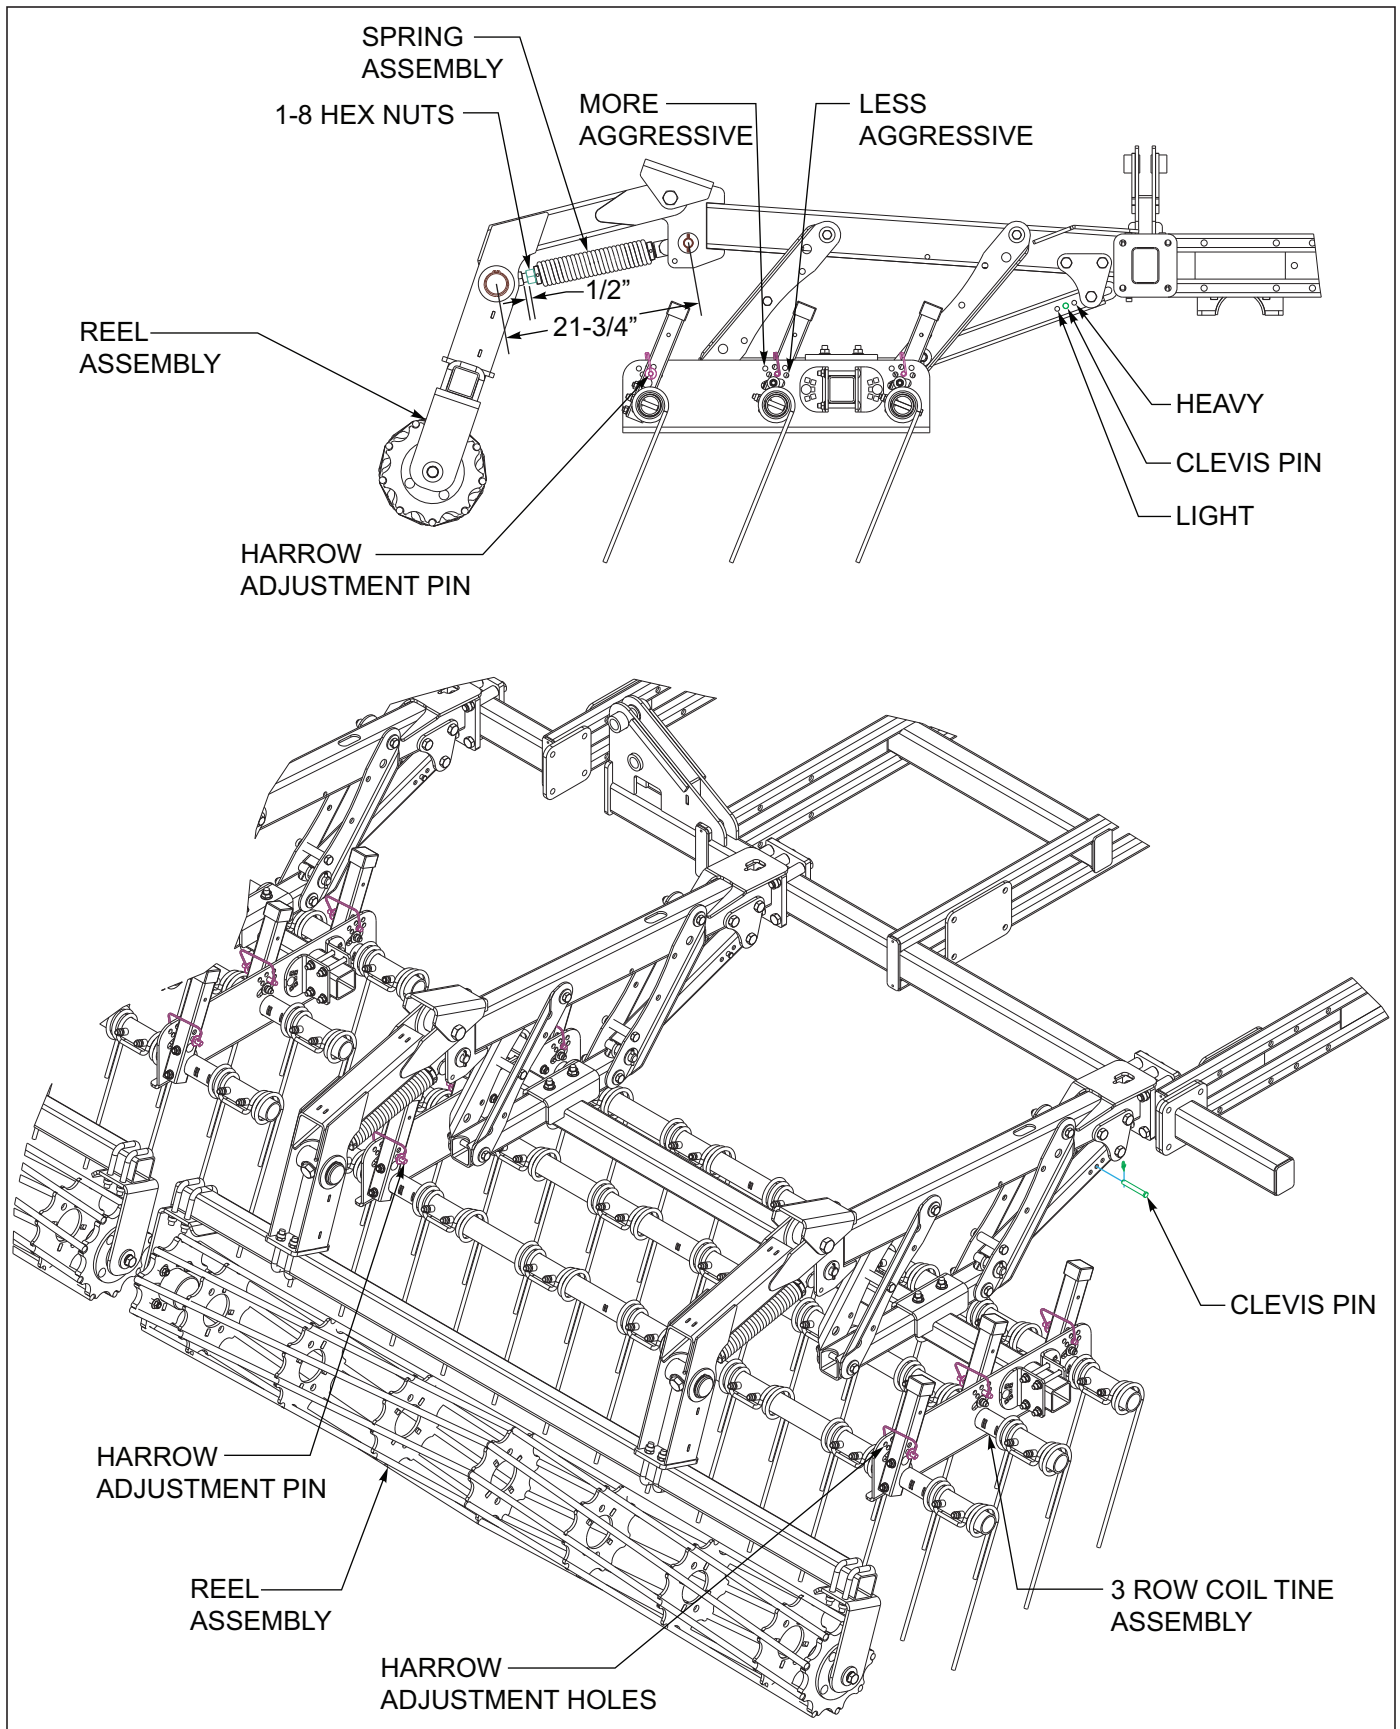

Figure 4-11: 3 Row Coil Tine and Reel Adjustments
3. In general tine harrows have better capabilities for handling more residue and wetter conditions. When operating the coil tine harrow, a more vertical tine tooth angle will make the harrow more aggressive. A lower/flatter tine angle will make the harrow less aggressive but will handle more residue and wetter conditions. To change the tine angle, raise the harrow off the ground. Remove the harrow pin from both angle adjustment tubes per tine gang bar tube **See Figure 4-11**. Rotate the angle adjustment tubes forward (less aggressive) or rearward (more aggressive) and reinstall both spring clip pins. Repeat the tine adjustment for each tine gang bar tube and harrow section.
4. Each coil tine harrow may be adjusted for spring pressure as well **See Figure 4-11**. Raise the tine harrow off the ground. Remove the clevis pin from the spring tube and install in a heavy or light setting as needed. **Excessive spring pressure and tine angle can overload harrow spring.**
5. To adjust the reel height, loosen the locking hex nut against the threaded spring end **See Figure 4-11**.